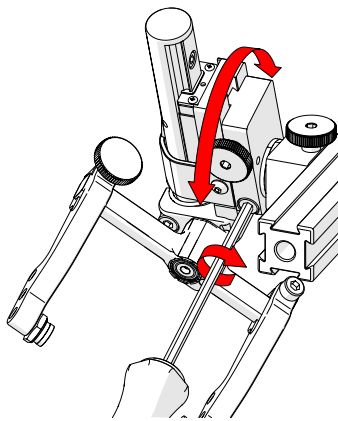

Fig. 117 - Rotate to position
3. Rotate the main body of the probe holder until it is at the desired angle (*Fig. 117*).
4. Tighten the longitudinal adjustment screw (*Fig. 117*).